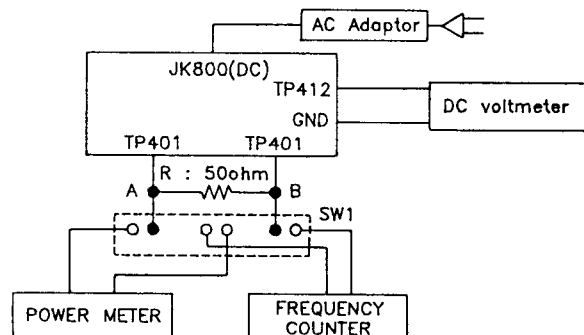

Fig. 2-2
- The connection of unit is shown in Fig.2-2.